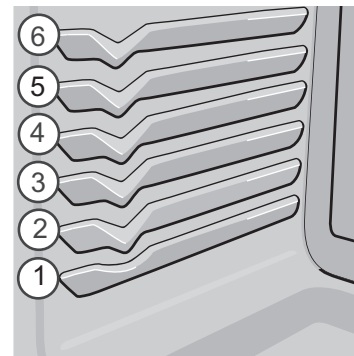

Figure 9: Rack positions
- For best results when baking cakes using two oven racks, place Glide rack in position 4 with flat rack in position 1. (See Figure 9).